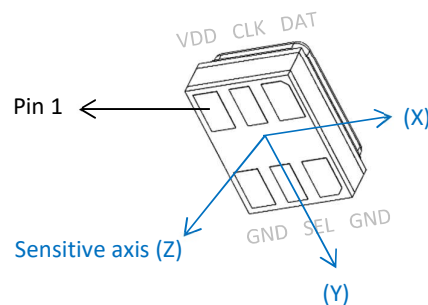

Figure 1 Sensitive axis (Z) of VPU
Figure 1 shows the VPU has a single sensitive axis (Z). When a person speaks, the whole skull vibrates. The speech induced skull vibration can be picked up on different head spots, such as ear canal, concha, behind the ear or nasal bridge. The VPU sensor should be ideally placed in the location and in the direction where the most bone conduction is transmitted for a person's own voice.